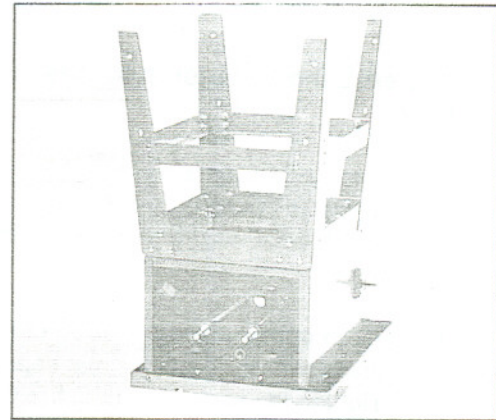

Fig. 3
1. Turn stand upside down and place onto table saw. (Fig. 3) Line up holes in top plates of stand with holes in table saw so that the front of the stand is flush with the front of the saw. The sides of the stand should also be flush with the sides of the saw.